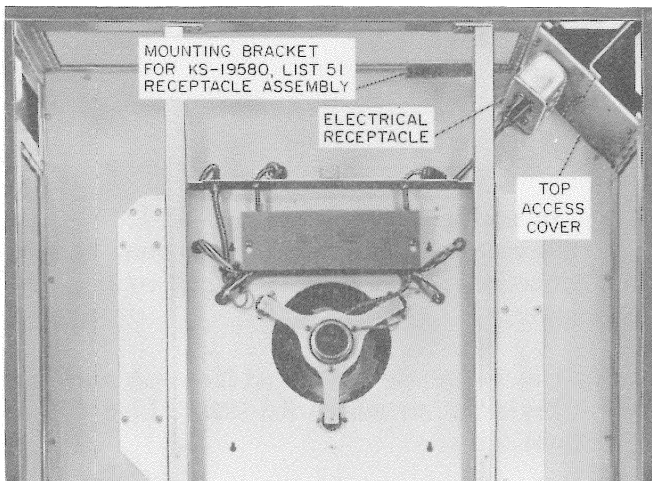
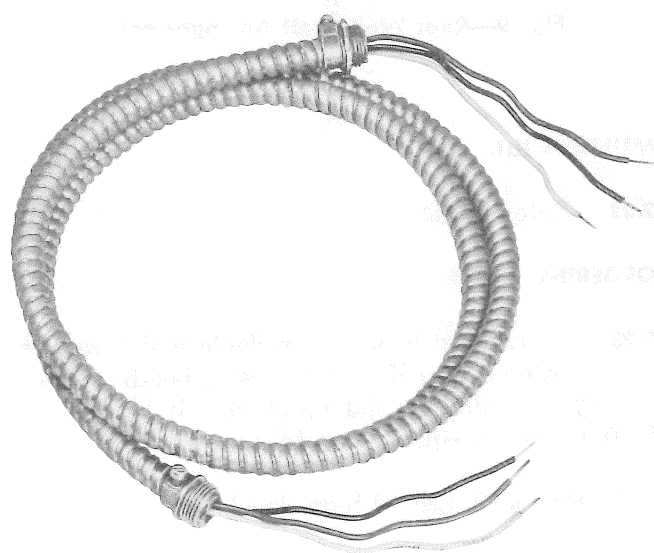

Fig. 3—KS-19580 Booth Ceiling Area
Fig. 6—KS-19425, List 24 Power Cable Assembly
2.12 A mounting bracket (Fig. 3) is provided in ceiling area for mounting a List 51 receptacle.
(c) *KS-19425, List 24 power cable assembly (Fig. 6):* Used to bring power from the KS-19426, List 17 circuit breakers box to the electrical receptacle (Fig. 3) located above the ceiling.
2.14 The telephone wire will terminate above the ceiling on a 123A1A protector which is furnished with booth and located behind the top access cover (Fig. 3).